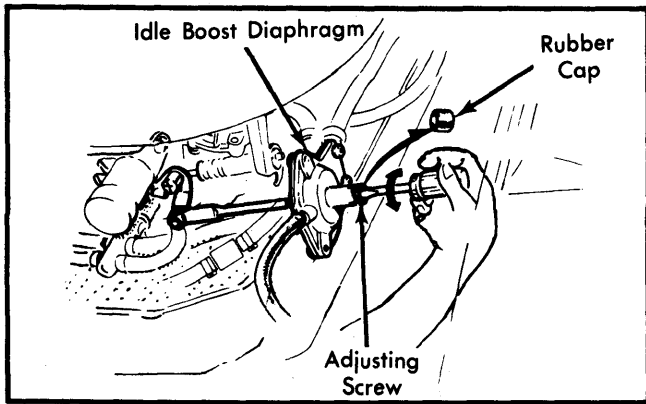

Fig. 4 Adjusting Idle Boost Diaphragm
- 7) Remove propane equipment and reconnect vacuum hose to air cleaner hot air door. Recheck idle speed with air conditioning on, if so equipped, and adjust idle boost diaphragm screw. See Fig. 4. Replace idle mixture adjusting screw hole cap.